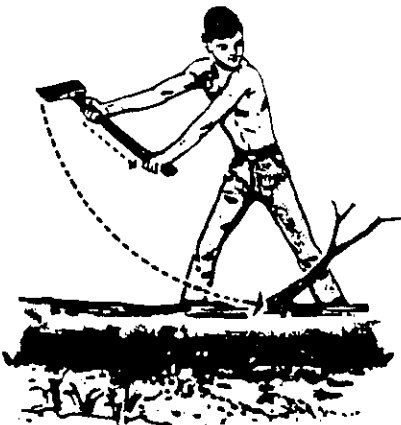

Figure 30
2. Trimming a Tree Trimming branches off a fallen tree is called swamping, limbing, or lopping. Always lop branches off from the bottom of the tree towards the top. See Figure 30. Never cut down from the crotch of a branch. If a branch has to come off from a standing tree, and it is difficult to trim from the bottom, at least make a deep cut through the bark on the bottom of the branch before striking into the crotch. This prevents the bark from tearing down onto the tree trunk.